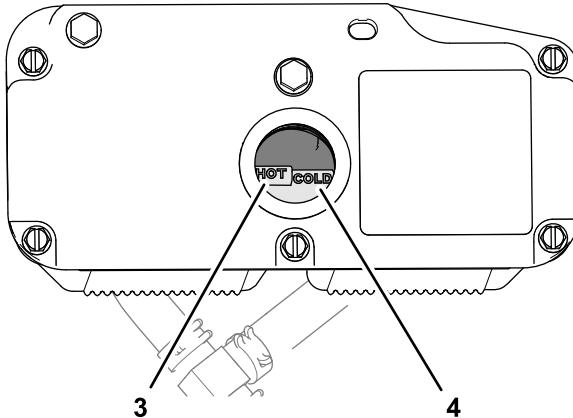

Figure 53
**Note:** The hydraulic-fluid level should cover the word FULL COLD that is embossed into the baffle of the reservoir (Figure 53).
5. If necessary, add the specified hydraulic fluid to the reservoir until the fluid covers the FULL COLD fluid level on the baffle (Figure 53).
6. Install the hydraulic reservoir cap (Figure 53) and tighten it until snug.